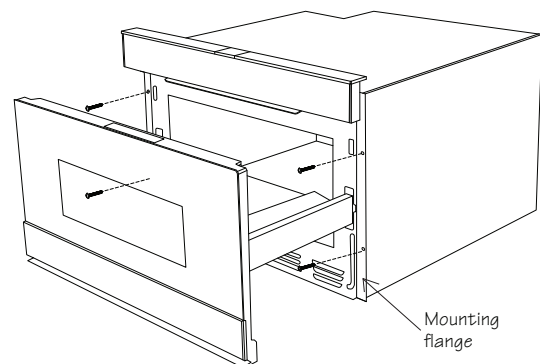

Figure 10
3. Slide the drawer all the way until the mounting flange is flush with the face of the cabinet. See Figure 10.
4. Open the drawer. Using the 4 holes on the drawer as a template, pre drill the cabinet using a 1/16" bit. See Figure 10.